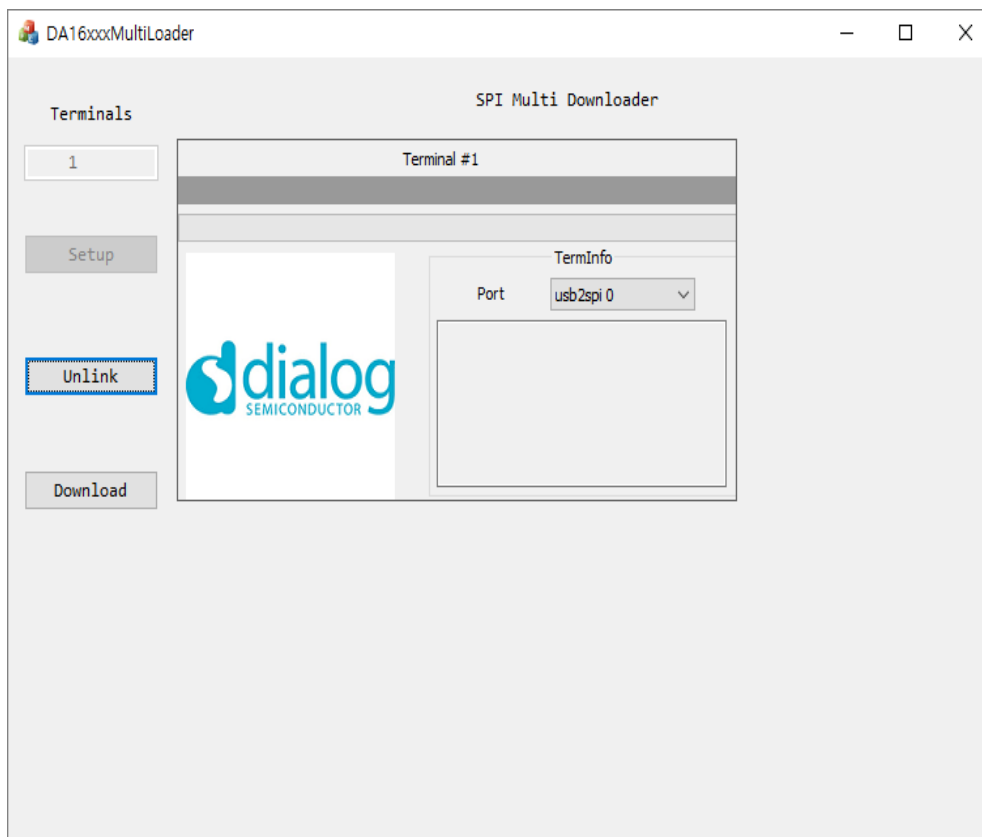

Figure 8: Link to Laptop
1. Click the **Link** button to setup a link between the test laptop and the DA16200 via the SPI interface. The status changes as shown in Figure 8.